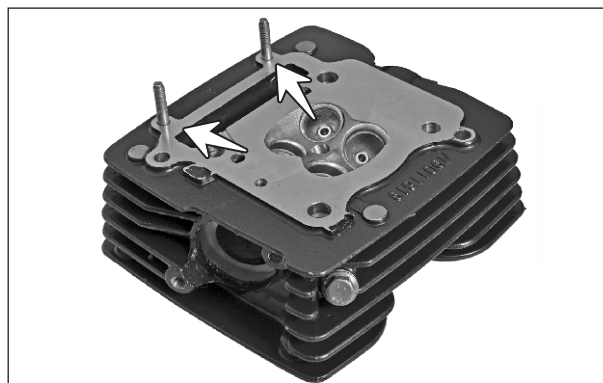

Fig. 3.55
- Using M6 nuts, remove stud bolt cylinder head (2 nos.) from cylinder head complete. (Fig. 3.55)